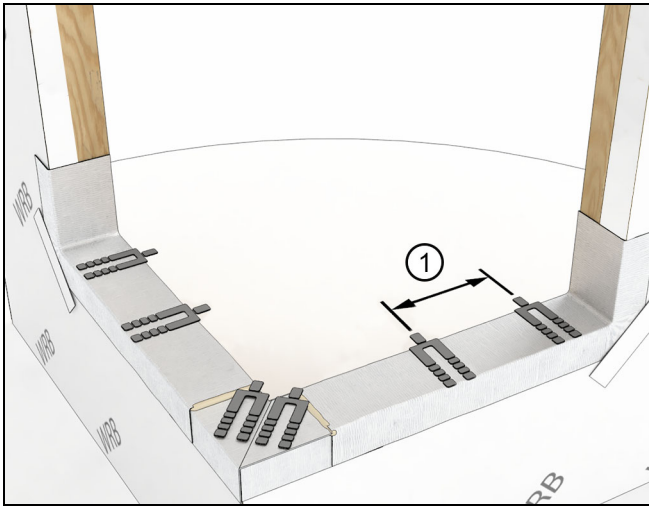

Figure 35
1. Place shims on the sill near the corners, near the miter, at the center, and every 15" on center as needed. See Figure 35.